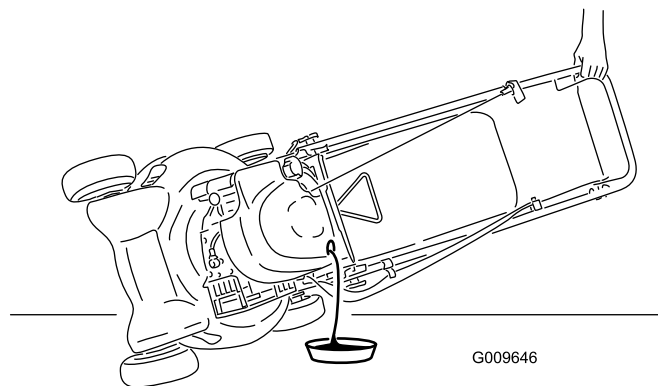

Figure 19
3. Tip the mower onto its side, with the dipstick down, to drain the used oil out through the oil fill tube (Figure 19).